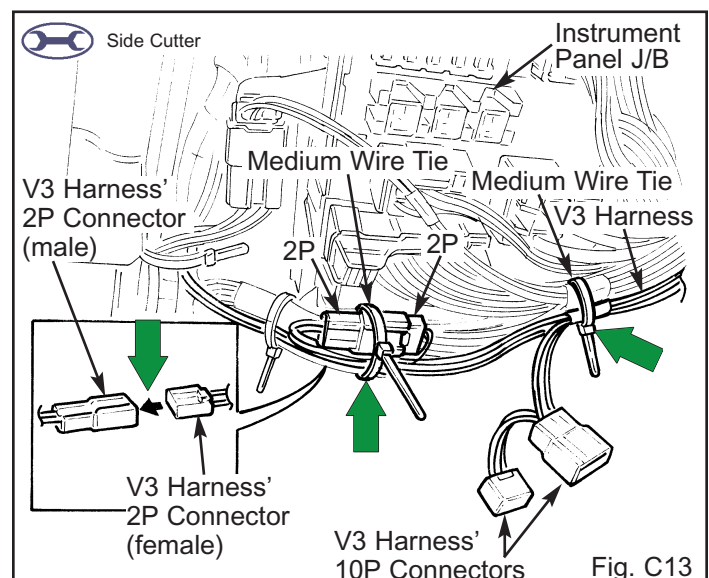

Fig. C13
26. Plug in the V3 harness' white 2P male connector into the V3 harness' white 2P female connector. (Fig. C13)
27. Secure the white 2P connector to the vehicle's harness with one medium wire tie. (Fig. C13)
28. Route the V3 harness as shown, then secure it to the vehicle's harness with one medium wire tie. (Fig. C13)